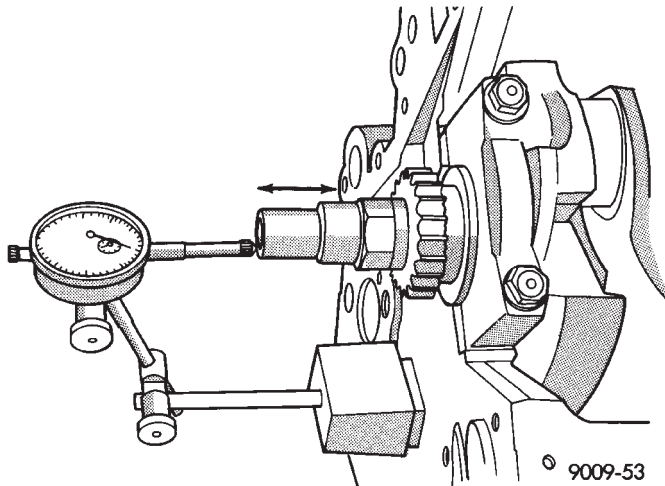

Fig. 80 Crankshaft End Play—Typical
(9) Check crankshaft end play by performing the following:
- (a) Mount a dial indicator to front of engine; locating probe on nose of crankshaft (Fig. 80).
(10) Lubricate connecting rod bearings with engine oil. Install connecting rod caps in original position. Tighten connecting rod cap nuts to 52 N-m (38 ft. lbs.).